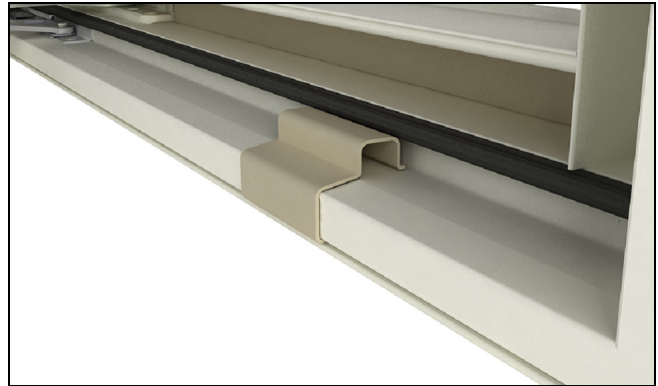

Figure 31
*NOTE: Sash must be raised at least 1" (25) before tilting to avoid damaging weather strip or sill components.*
5. On Casement units: Open the sash and remove the shipping blocks from the frame. See Figure 31.